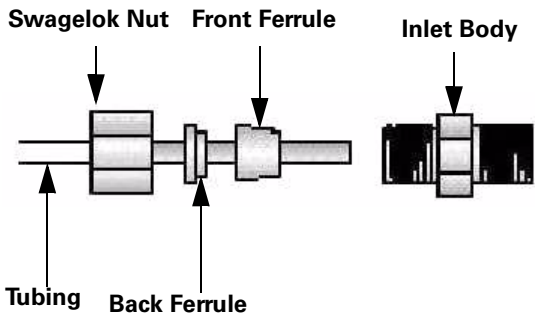

Figure B-1 Swagelok Ferrule and Nut Assembly
- The threads on the nut should face the open end of the tubing as shown in *Figure B-1 Swagelok Ferrule and Nut Assembly*.